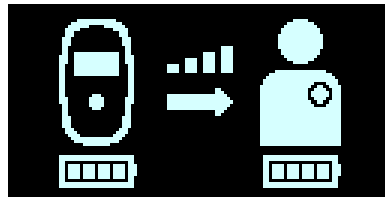

Figure 87: Charging IPG Status Screen
5. After the data download has been completed, the Charging IPG Status screen is displayed by the Guardio Charger. **See Figure 87.**
7. The Charging IPG Status screen (see **Figure 87**) will continue to be displayed as the OPTIMIZER Smart Mini IPG is being charged.